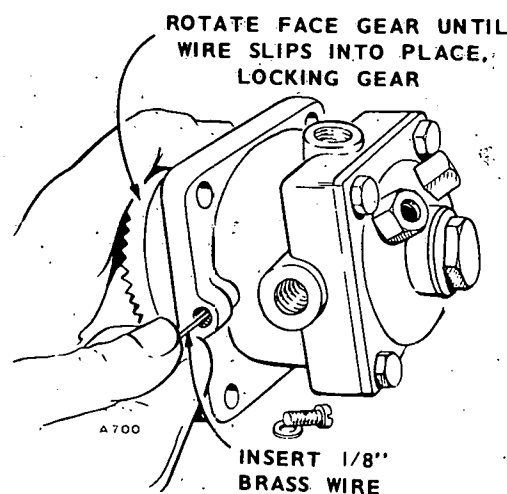

FIGURE 24. INJECTION PUMP
2. Turn the flywheel to the port closing mark (PC) on the front cylinder compression stroke.
3. Remove the timing hole screw located on the pump mounting flange. Insert a 1/8" diameter brass wire into the hole (Figure 24).